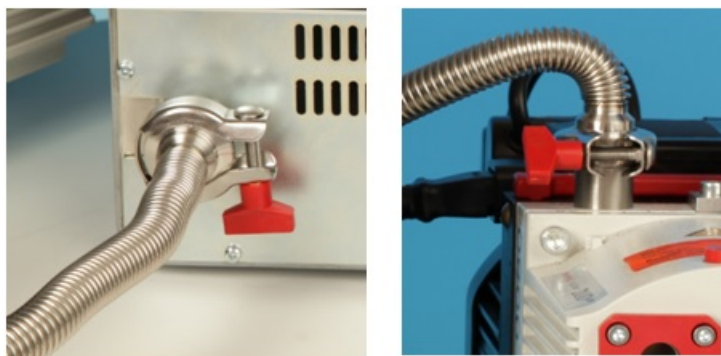

Figure 13 - Rotary pump – vacuum hose connection to GloQube and pump
- Using the KF 16 clamp and 'O' ring carrier provided, attach the stainless steel vacuum hose to the unit as shown in Figure 13.
- Connect the other end of the hose to the inlet side of the vacuum pump (↑) using the KF 16 clamp and 'O' ring carrier/filter provided (Figure 13).